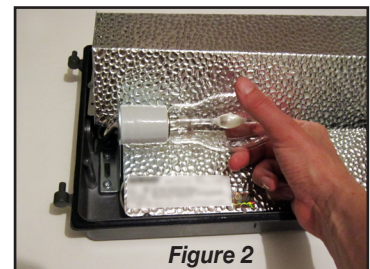

Figure 2
- 2) Using a #2 Phillips screwdriver, remove the two enclosure screws and open the enclosure cover. The fixture should now appear as in FIGURE 2.